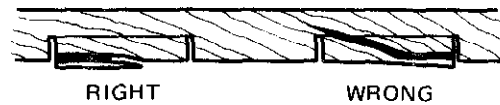

Fig. 9-21 Starting a cut.
4. Start the cut so that cutting is done with the grain, figure 9-21.